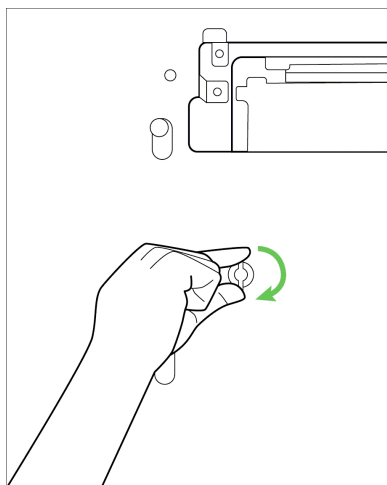

Figure 3-6. Tightening the wing bolts
9. Rotate the bolts clockwise tightly until they can go no further and fully engage the threads. Repeat this step for each hole in the platform (Figure 3-6).